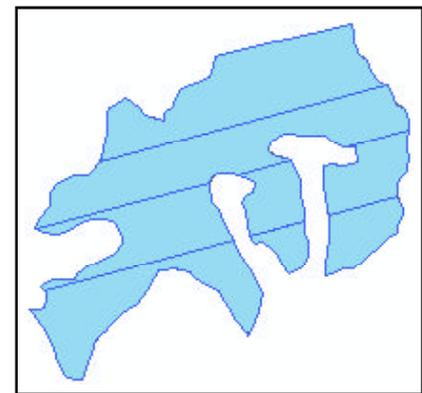
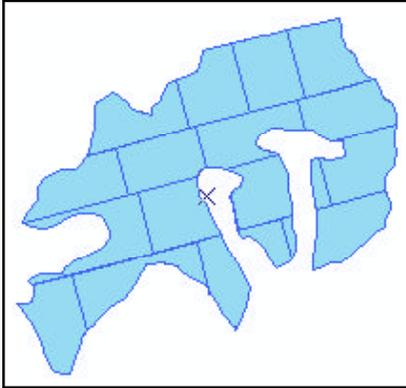

Figure 11
Figure 12
Shown in Figure 11 is the result of the subdivision process using a clip angle of 15°.
Shown in Figure 12 is the result when the polygons in Figure 11 are further subdivided into 4 more equal area polygons using a clip angle of 105°.
Shown in Figure 13 is the attribute table for the polygons shown in Figure 12. Note the area values under the ARA column. Although not identical, all area values are within the area difference tolerance value of 0.0001.
- f. One approach to subdividing a polygon is to divide the polygon into 2 parts at a specific angle. After which, the newly created polygons can be subdivided again into 2 parts using an angle that has 90° added to the original angle. For example, a polygon can be subdivided into 2 parts using an angle of 0°. The new polygons can then be subdivided into 2 parts with an angle of 90°. This process repeats alternating the two different clip angle values. This process was used in generating the polygons shown in Figure 12.